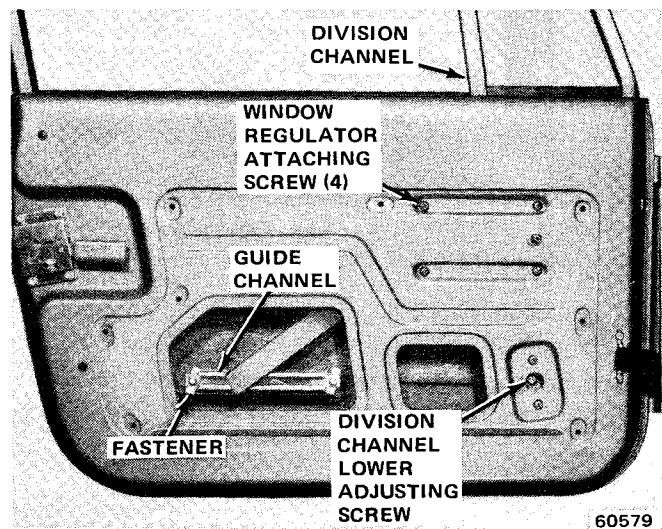

Fig. 3J-1 Door Glass Replacement—CJ
(1) Remove door trim panel and water shield.
(2) Loosen division channel lower adjusting screw and move division channel fore or aft to obtain the desired door glass operation (fig. 3J-1).